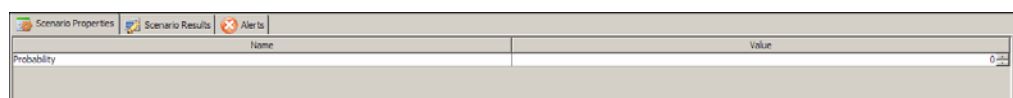

Figure 10.16: Assign Probability
1. If any decision node is used in the process flow, you can assign the probability for each possibility of the decision node. To assign the probability, double-click the sequence coming out of the decision node. Properties of the sequence flow are shown in *Scenario Properties* panel (see Figure 10.16).